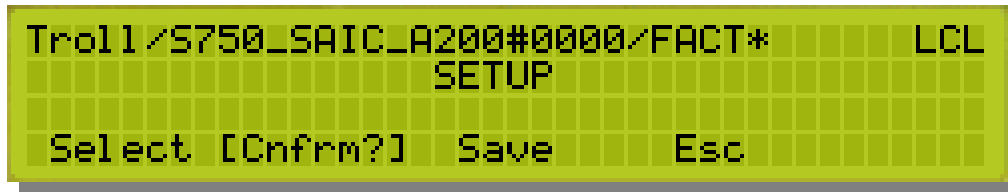

Figure 3–15. Configuration Confirmation Screen
15. Press [Save] after confirming that the “pending” configuration is correct. The display on the S750 should appear similar to the one shown in Figure 3–16.